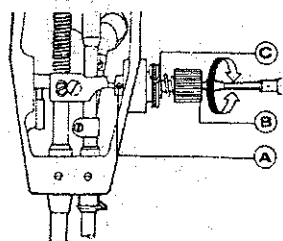

Fig. 13
To adjust the thread take-up spring tension: (Fig. 13), first loosen the set screw (A) then turn the tension stud (B) counter clockwise to decrease the tension of the thread take-up spring (C) to zero. then turn the tension stud (B) clockwise till the spring (C) comes to the notch of the tension regulating bushing, and again turn the tension stud (B) halfway back (counter clockwise ), After the adjustment, tighten the set screw (A).